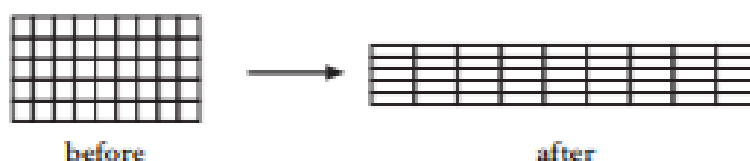

Figure 9D
- (ii) The **original** 488nm laser is restored and the fabric sample is stretched as shown in Figure 9D.